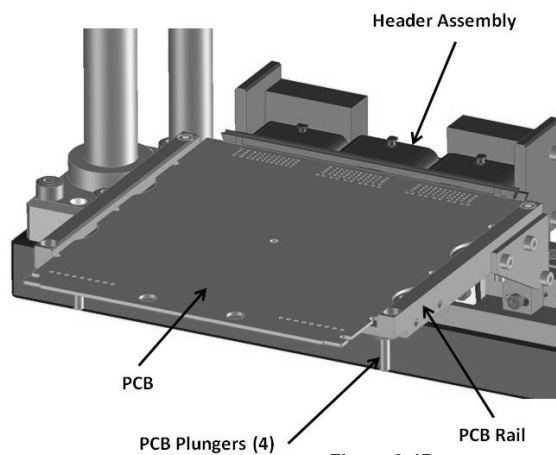

Figure 2-4B
4. Place PCB on plungers of PCB rails and all compliant pin tips. See Figure 2-4B.